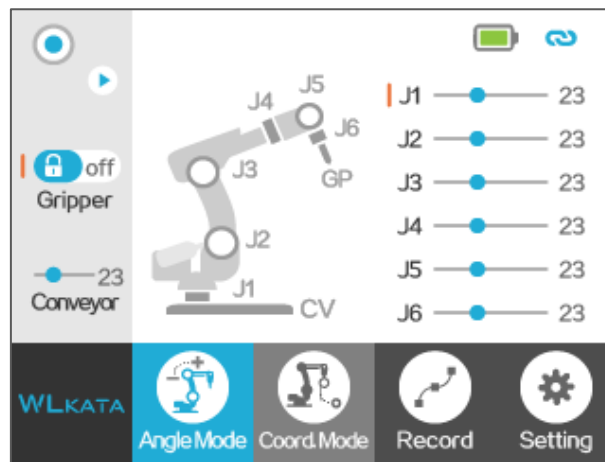

Figure3.50 Angle mode interface of Bluetooth handle
(1) Switch the Bluetooth teach pendant interface to the angle mode interface, as is shown in Figure 3.50.